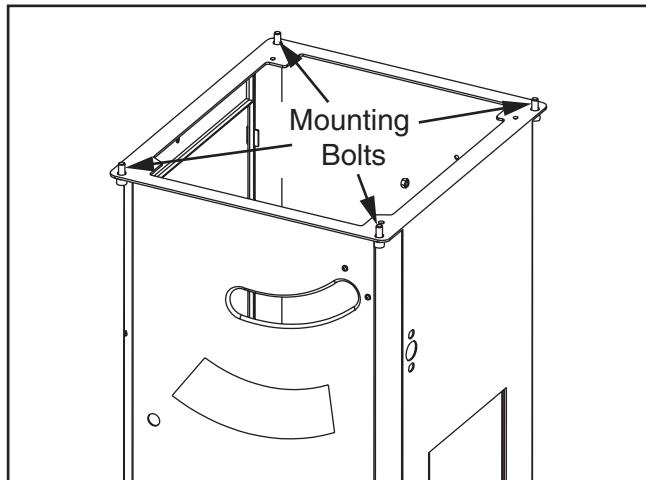

Figure 110. Location of table mounting bolts (table omitted for clarity).
6. Loosen (4) table mounting bolts securing table top to base (see **Figure 110**), and lightly tap table in direction needed to square table to blade.